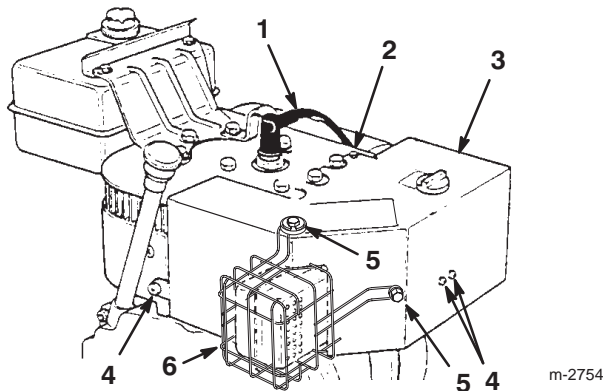

Figure 15
If you operate the engine when the air temperature is above 40°F (4°C), remove the carburetor heater box (Fig. 15).
1. Disconnect the wire from the spark plug and ensure that the wire does not contact the plug (Fig. 15).
4. Remove the fasteners that secure the carburetor heater box in place (Fig. 15).